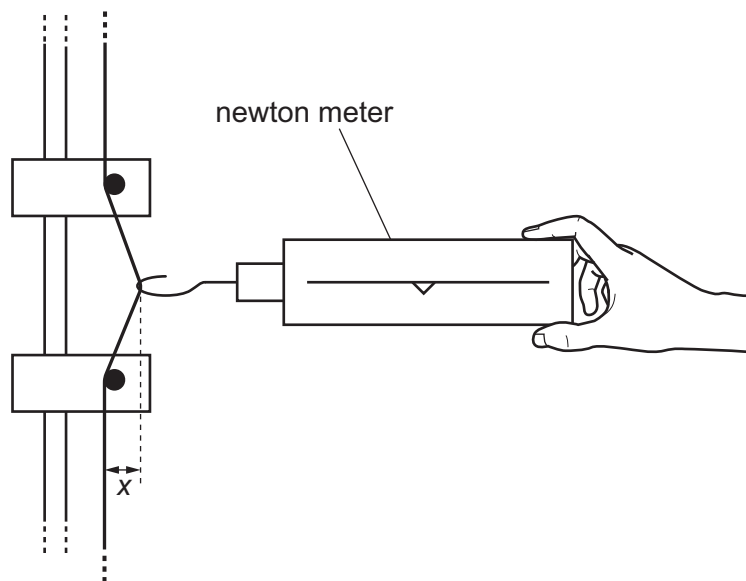

Fig. 2.2
(c) (i) • Hook the newton meter on the string half-way between the two lower nails and pull it horizontally with a force F of 5.0 N , as shown in Fig. 2.2.
• The force F causes the string to deflect a distance x , as shown in Fig. 2.2.